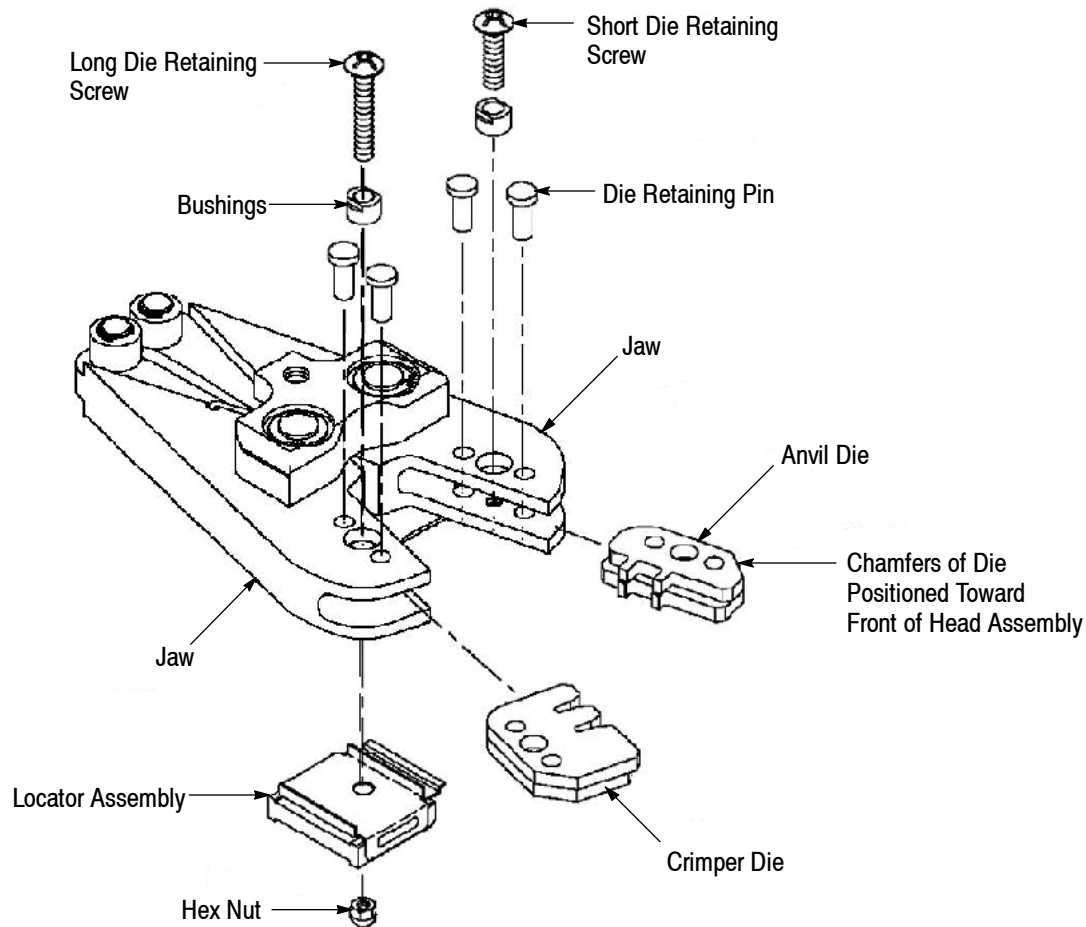

Figure 3
**B. Pinned Dies** (See Figure 3)
3. Install the crimper die into the jaw as shown in Figure 3. The die should be oriented so that the chamfers are positioned toward the front of the head assembly and the die markings are facing outward.